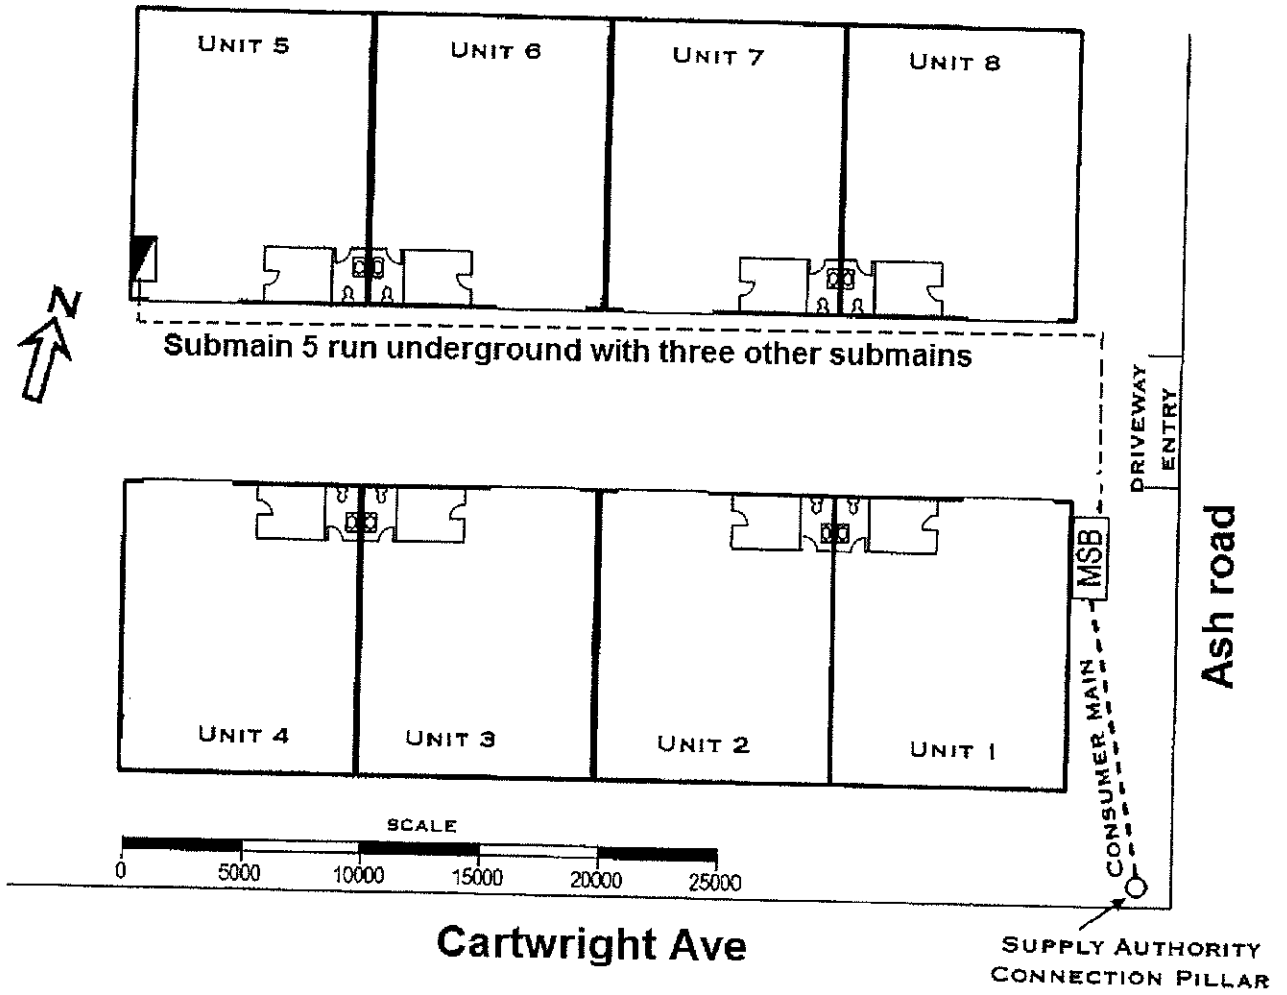
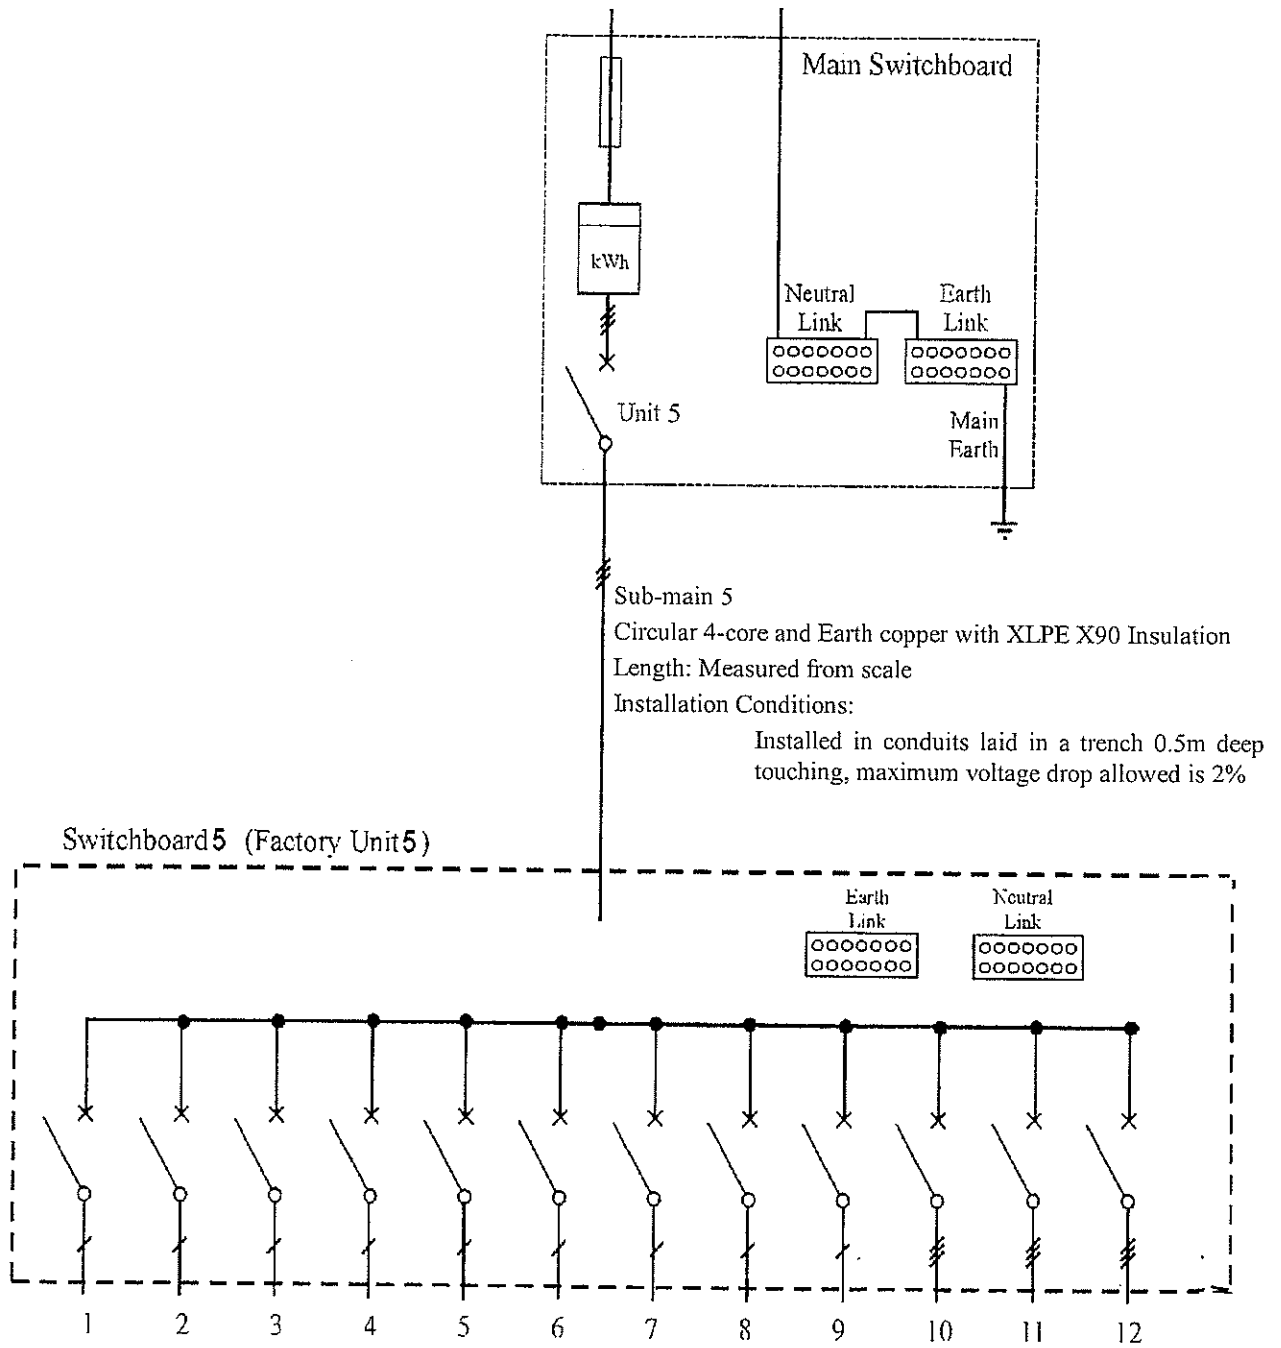

Figure 2
Figure 3
- 2 (a) If sub-main 5 supplying factory Unit 5 in Figure 2 has a maximum demand of 53 A, determine the minimum conductor size based on current carrying capacity when installed as shown in Figure 2 and Figure 3.
- 2 (b) If the sub-main to factory Unit 1 in Figure 2 was installed close to the roof where the ambient air temperature could reach 55°C, what de-rating factor would apply to the cable?
Calculate the maximum demand of the three-phase sub-main to Unit 5 shown in Figure 3 using the information provided in Table 1.
If the maximum demand of the sub-main to Unit 5 in Figure 2 was 110 A, what would be the minimum size of the active, neutral and earth conductors, based on current carrying capacity, for a V90 multi-core cable having copper conductors, installed in an underground duct together with three other sub-mains, when protected by a 120 A type 'D' circuit-breaker?
If the maximum demand of Unit 5 in Figure 2 was 85 A, and the sub-main supplying Unit 5 is X90 multi-core cables having 50 mm² circular copper conductors, would the voltage drop be within the specified limit of 2.0% if the length of the sub-main is 50 metres?
If the sub-main cable to Unit 5 in Figure 2 was protected by an 85 A type 'D' circuit-breaker, calculate the tripping time for circuit-breaker if the source impedance at the MSB is 0.015 ohms.